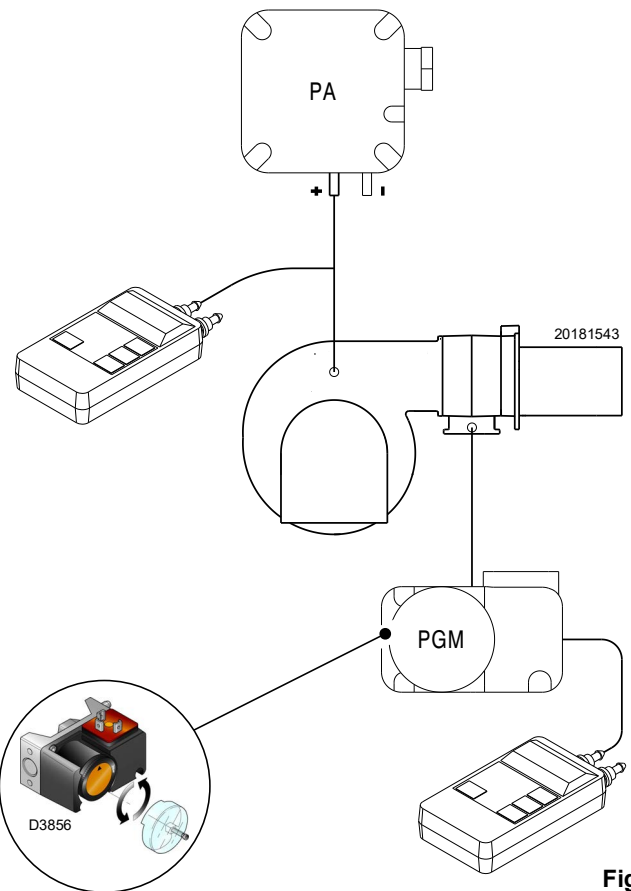

Fig. 39
- Adjust the maximum gas pressure switch (Fig. 39) to the end of the scale.
Adjust the maximum gas pressure switch (Fig. 39) after making all other burner adjustments with the maximum gas pressure switch set to the end of the scale.